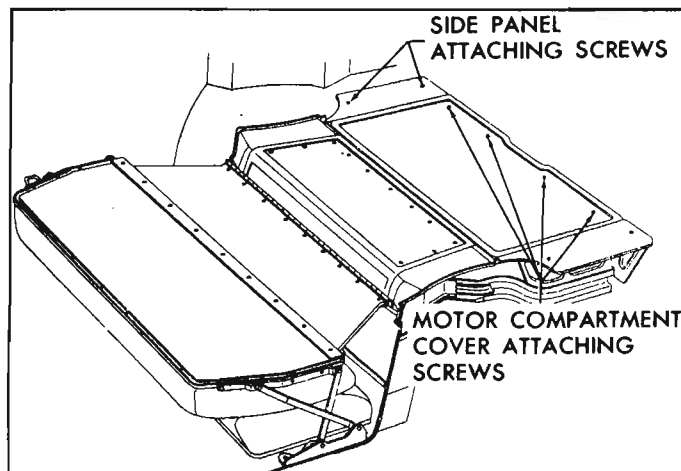

Fig. 10-110—Engine Compartment Cover Panel Assembly
1. Remove screws securing rear end of panel to floor pan support (fig. 10-110).
1. Remove screws which secure panel to floor pan supports (fig. 10-110) and remove panel assembly from body.